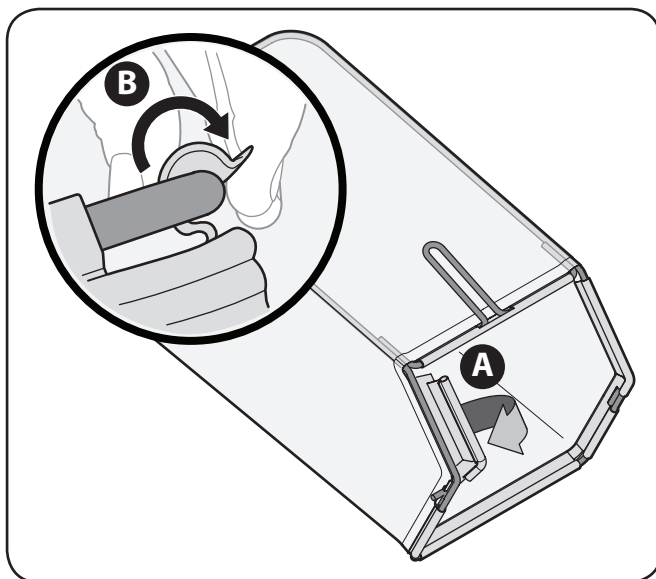

Figure 3-6
- Follow steps below to assemble the grass catcher. Make certain bag is turned right side out before assembling (warning label will be on the outside). See Figure 3-6.